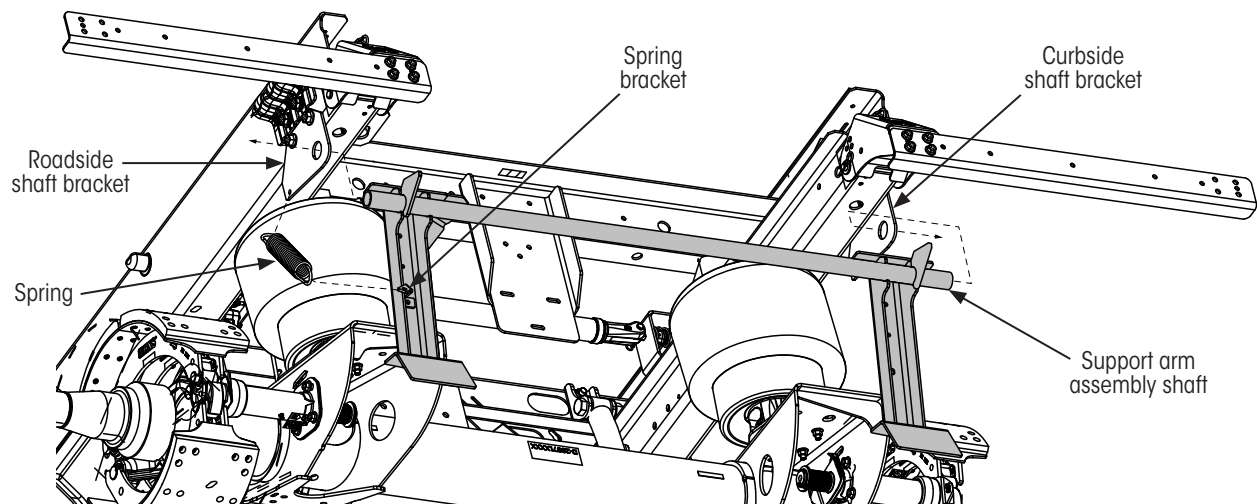

Figure 10: Support arm assembly installation
2. Insert one end of spring (Figure 10) through spring bracket hole on support arm assembly.
4. Insert roadside end of the support arm assembly shaft (Figure 10) into roadside bracket.